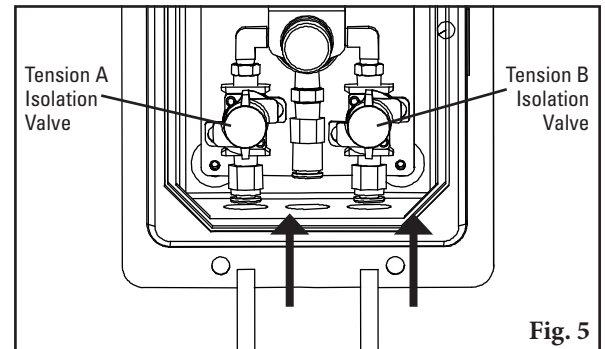

Fig. 5
7. **Cutting the access hole.** Cut access hole, centring the bottom edge on the adjusted intersecting mark (“+”) established in Step 4. Width of hole should be 175mm; height should be 325mm for extra small arms, 375mm for small arms, 420mm for medium arms, 450mm for large arms or 555mm for extra large arms. Access hole may be oriented within the range shown (Fig. 5), provided bottom edge is still centred as described above.
Connect one end of each tube to the control panel outlet fittings refer Fig. 5. Connect the other end of the tube to the cleaners tensioner (refer to specific cleaner IOM for setup and connection requirements).